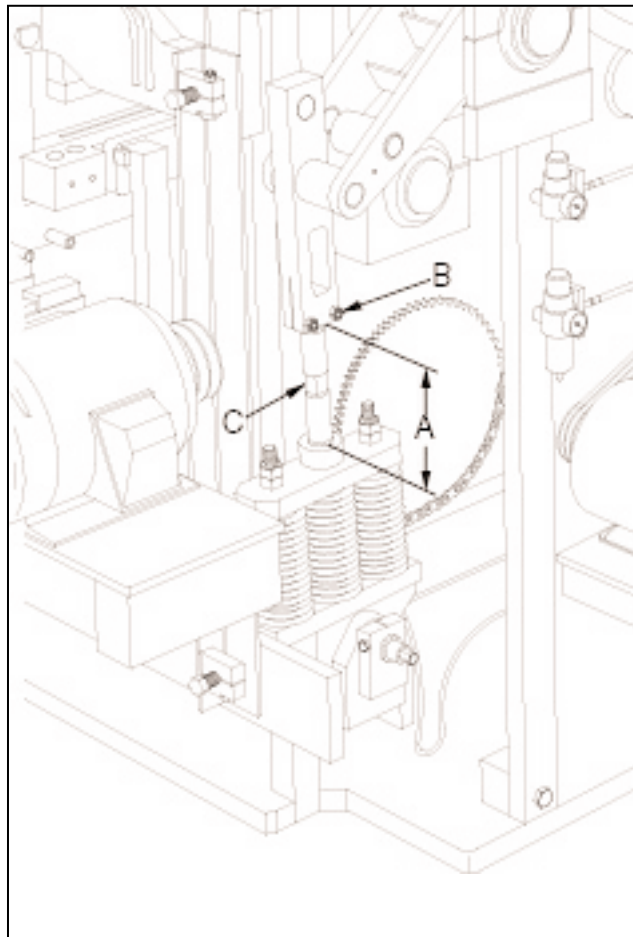

Figure 4.23 ADJUSTING PALLET RECEIVER LINKS
- 4.2.14 Adjust the pallet receiver link assemblies to a dimension of **7" [178mm]** between the upper and lower link assemblies (see figure 4.23) (A). To do so, loosen the two bolts (B) and turn up or turn down (C) with a wrench.